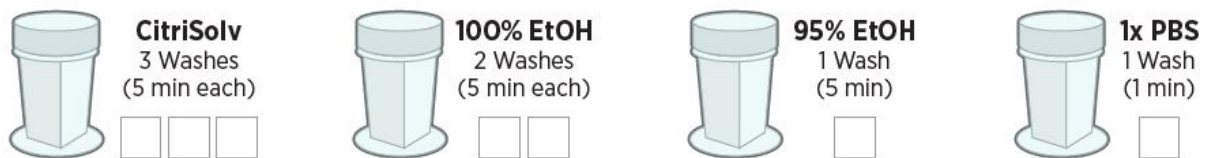

Figure 6: Wash steps
2. **Deparaffinize and rehydrate FFPE tissue sections**. Place slides in a rack and perform the following washes in staining jars (see Figure 6). Ensure you have sufficient buffer volume to cover all slides. Slides should be dipped up and down gently several times when placing in and before removing from staining jars. After the last wash, slides can be stored in the 1X PBS for up to one hour.